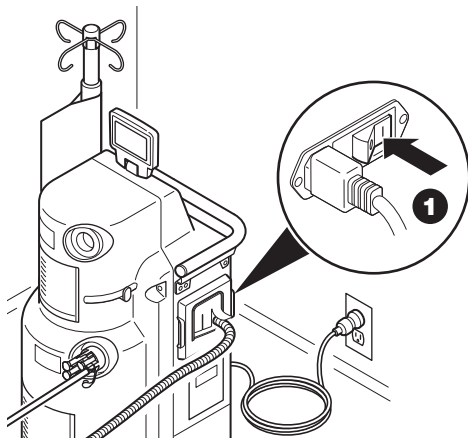

Figure 45 To Connect Power
1. Verify the rover is connected to facility power and push the power switch to the **ON** position (Figure 45).